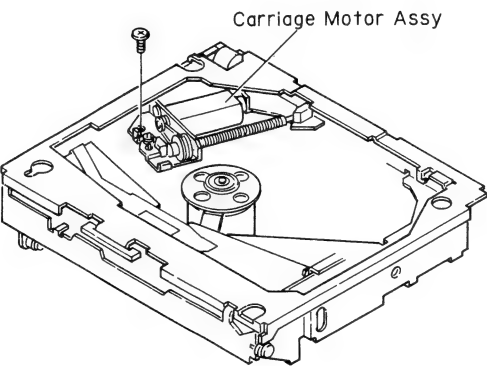

Fig. 10
- 11. Remove the screw, and then remove the carriage motor assy. (Fig. 10)